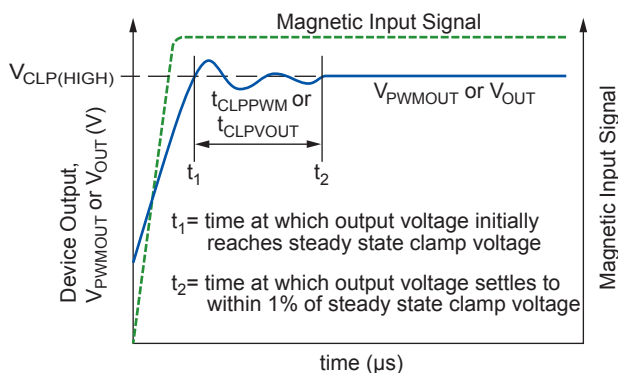

Figure 4: Definition of Delay to Clamp
**Delay to Clamp:** A large magnetic input step may cause the clamp to overshoot its steady-state value. The delay to clamp,  $t_{CLPVOUT}$ , is defined as the time it takes for the output voltage to settle within 1% of its steady-state value after initially passing through its steady-state voltage. This is conceptually the same for the PWM output duty cycle settling to the steady-state value. (See Figure 4.)